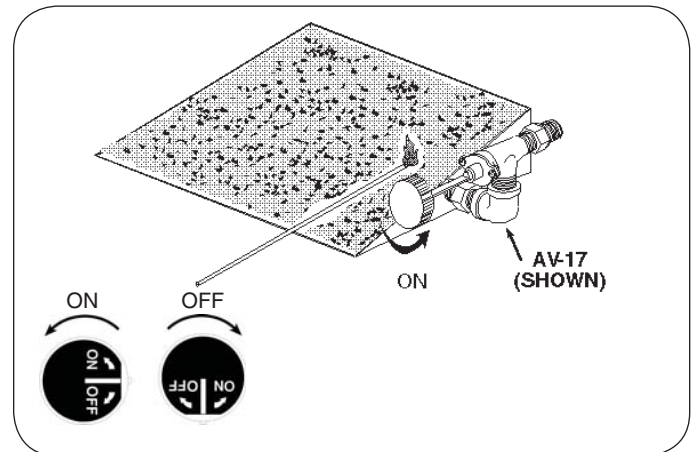

Fig. 13-1
1. Lay a lighted long-stem match on the surface of the embers near the gas inlet (**do not hold the match in your hand**) or use a lighted long-necked butane lighter (Fig. 13-1).
4. Wait approximately five (5) minutes to clear out any gas, and repeat steps 1-3 above.